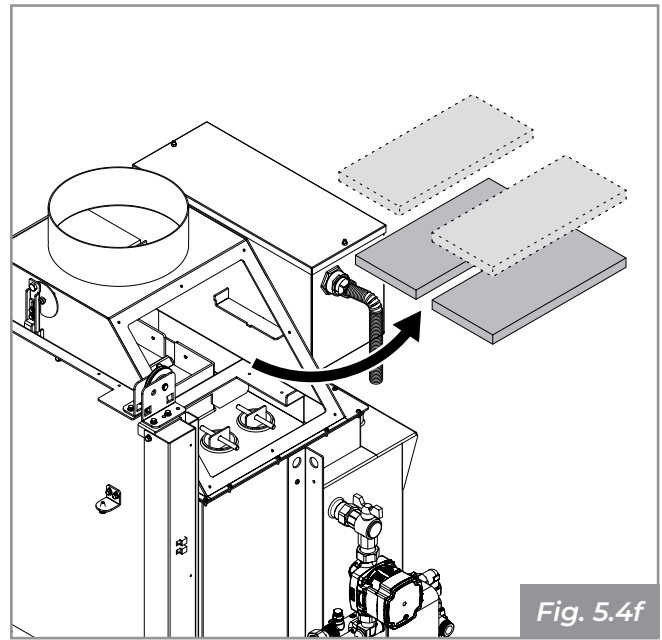

Fig. 5.4f
- Pull out the magnofix fume deflectors and eliminate any soot residues (**Fig. 5.4f**);